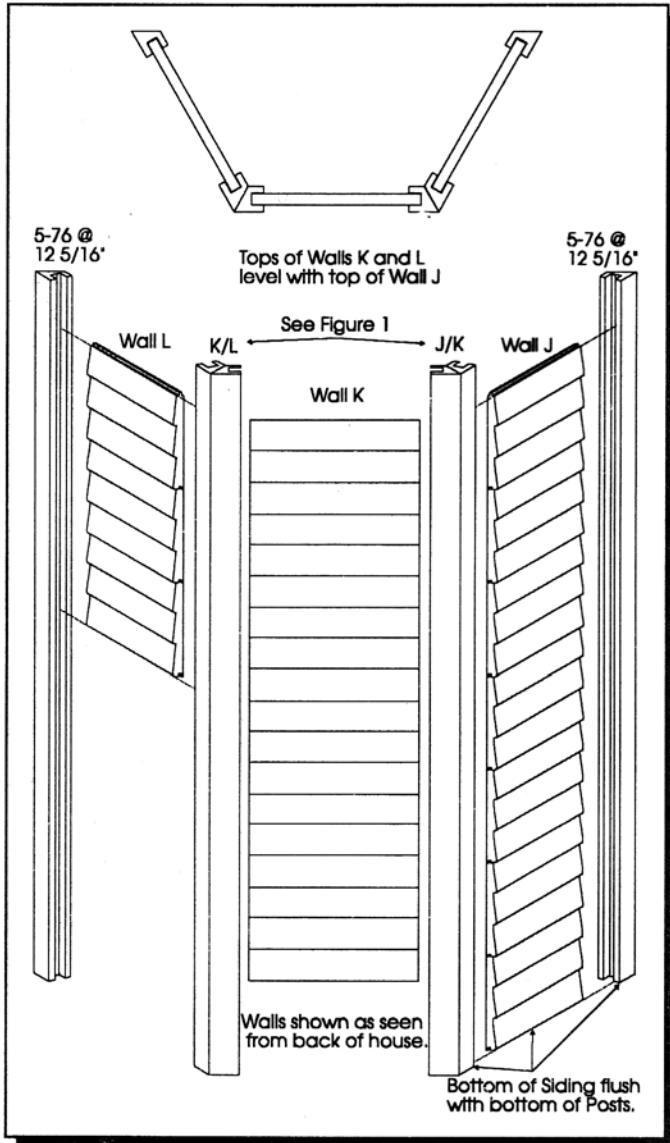

Figure 25
5. Gather the Siding Walls J, K, L, and from the "Special Longframe Assemblies" (Figure 1) the two 12 5/16" 5-76 assemblies and from the "LPL" the two remaining 12 5/16" pieces of 5-76. Tape Siding Walls J, K, and L, and the indicated cornerposts together as shown in Figure 25. **Tape, but do not glue the 5-76 to the back of the tower yet**, this will be done after the roof is installed and Walls J, K, and L are modified.